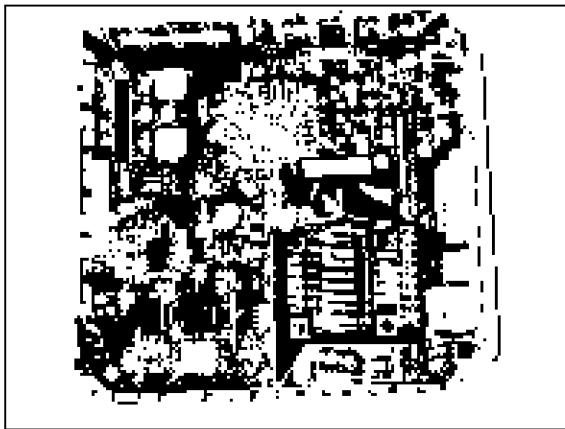

Figure 20-1:
This is visible in the upper-left corner of Figure 20-1.
This is visible in the lower-right corner of Figure 20-1.
You can see the LED cable in the lower-left corner of Figure 20-1 and to the left of the battery in Figure 20-2.
8. Carefully lift the motherboard from the side that the battery is on (the left side, as pictured in Figure 20-1).